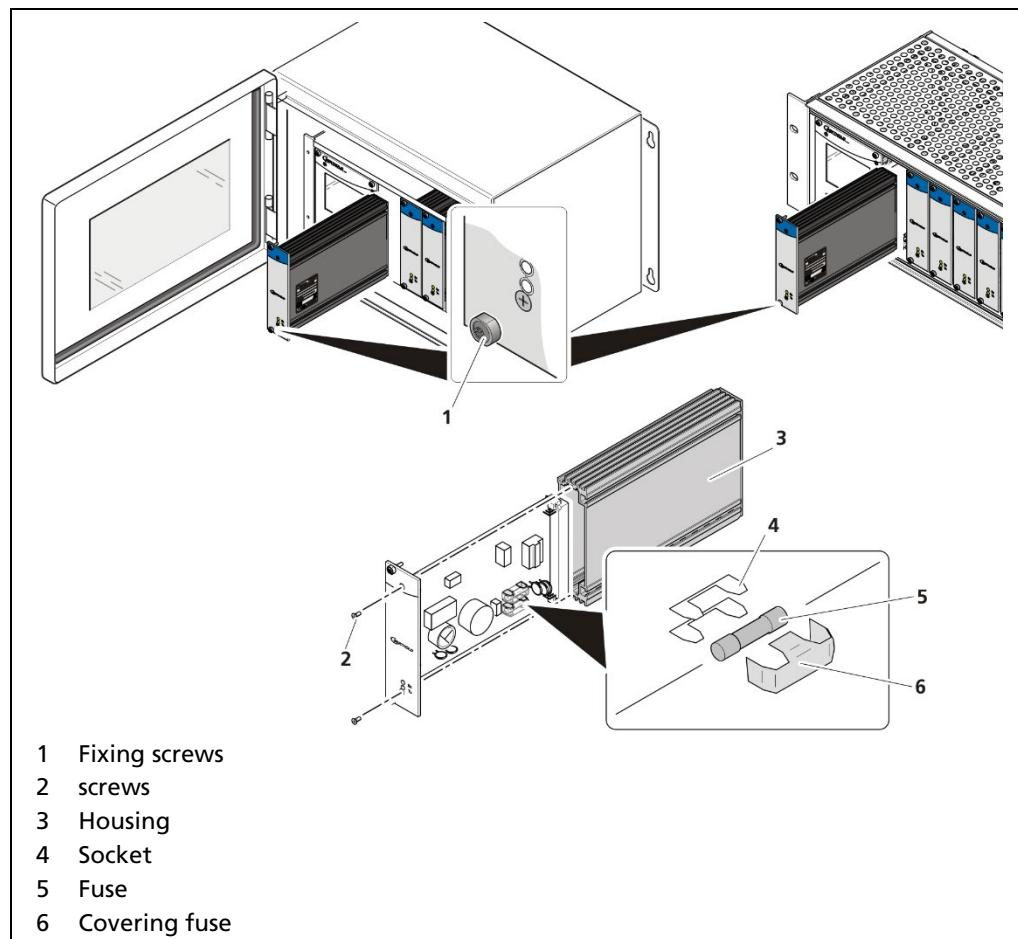

Fig. 144 Replacing fuses slave module
2. Loosen the two fixing screws (Fig. 144, item 1) and remove the EVU from the wall housing or subrack.
3. Loosen the two sunken screws on the front side of the slave module (Fig. 144, item 2).
4. Pull out the housing (Fig. 144, item 3) carefully.
5. Remove the protective covering of the fuse (Fig. 144, item 6)
6. Remove the fuse (Fig. 144, item 5).
11. Tighten all fixing screws (Fig. 144, item 1).